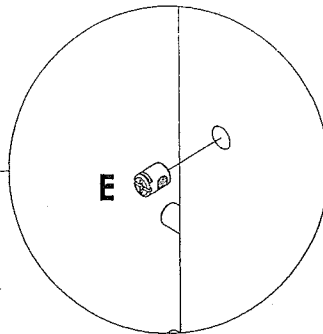

Figure 15
1. Insert **JRN Nuts (E)** into the holes found on both **Guard Rails & Side Rails** as shown in **Figure 15**.